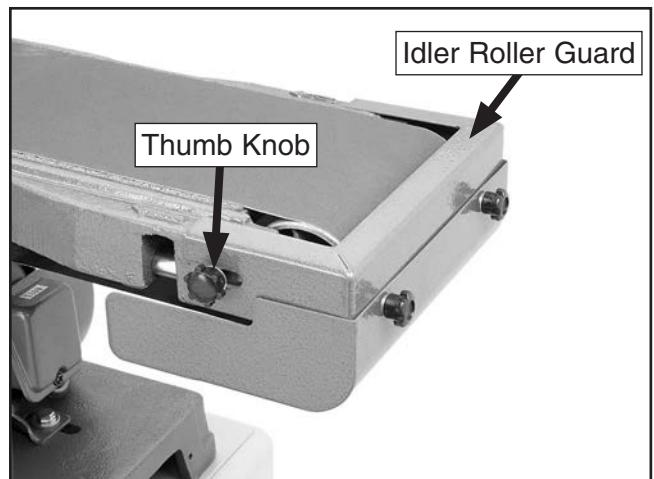

Figure 37. Idler roller guard installed.
- 23.** Assemble idler roller guard with (2) M5-8 x 10 thumb knobs, (2) #10 lock washers, and (2) #10 flat washers. Then loosen thumb knobs behind idler roller, and install idler roller assembly (see **Figure 37**).